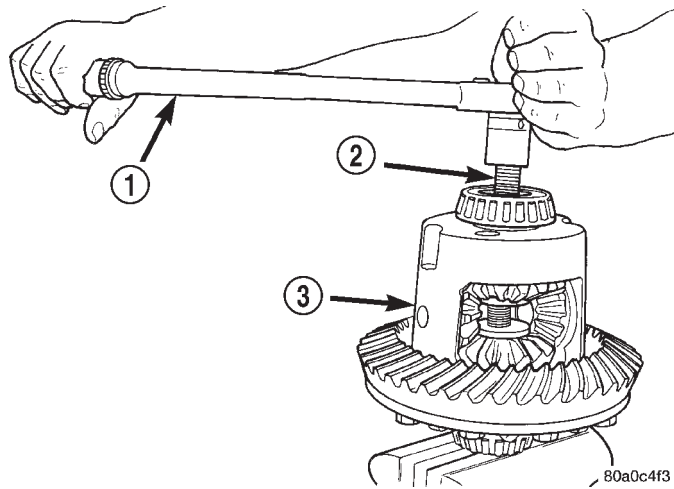

Fig. 57 Tighten Belleville Spring Compressor Tool
(9) Tighten forcing screw tool 122 N-m (90 ft. lbs.) maximum to compress Belleville springs in clutch packs (Fig. 57).